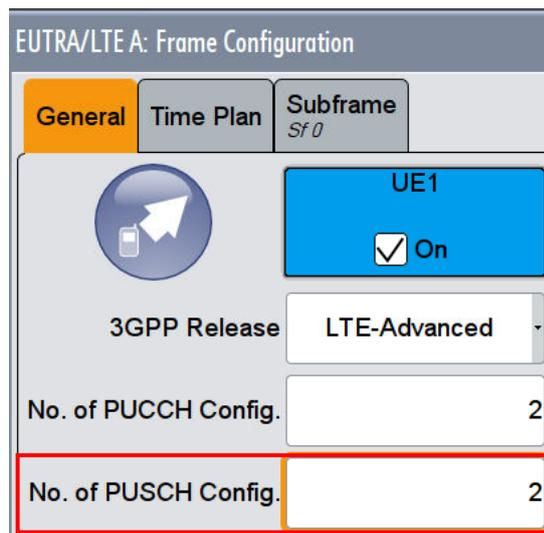

Fig. 3-134: Set two configurable PUCCH subframes
4. Set **No of PUCCH Config** to 2 (Fig. 3-134)